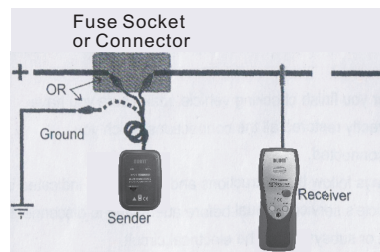

Figure 3
6. Continue this procedure while the audio signal indicates the integrity of the circuit, if audio signal stops, it indicates that the probe has passed beyond the open, break or bad connection in the circuit. See Figure3.